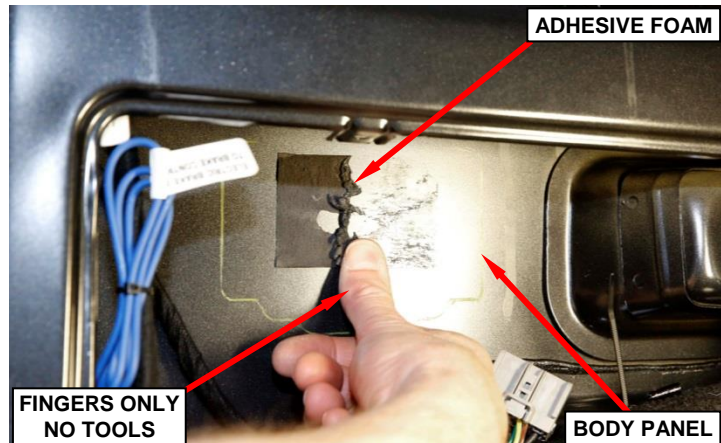

Figure 21 – Remove Foam Pieces
24. Use fingers ONLY to rub away any large adhesive foam backing pieces (Figure 21).